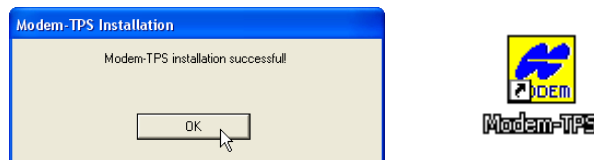

Figure 2-3. Installation Complete and Shortcut
3. Click **OK** to complete the installation (Figure 2-3).
4. If desired, create a shortcut on the computer's desktop for quick access to Modem-TPS (Figure 2-3).